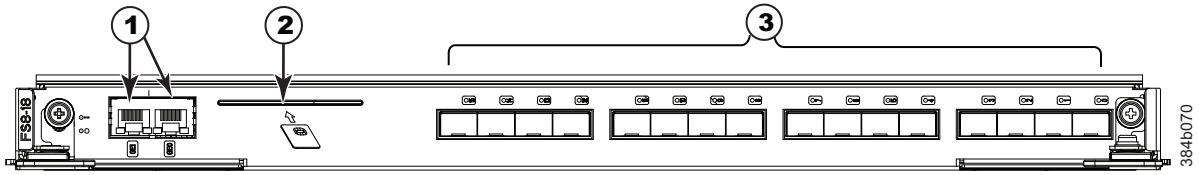

Figure 61. FS8-18 encryption blade
- Figure 61 on page 159 shows an FS8-18 encryption blade